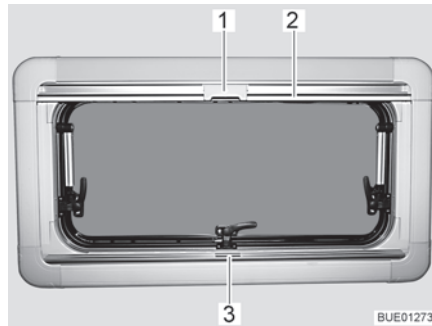

Fig. 74 Hinged window
Closing: ■ Grip the Roman shade in the centre of the holding bar (Fig. 74,3), pull it from the bottom to the top and then release it at the desired height. The Roman shade will stay at this height.
Closing: ■ Pull the insect screen down using the holding bar (Fig. 74,2), until it touches the holding bar of the Roman shade (Fig. 74,3).
■ Clip the catch (Fig. 74,1) on the insect screen into the handle of the Roman shade.
Opening: ■ Push the catch (Fig. 74,1) on the insect screen inwards.
■ Move the insect screen back slowly on the holding bar (Fig. 74,2).